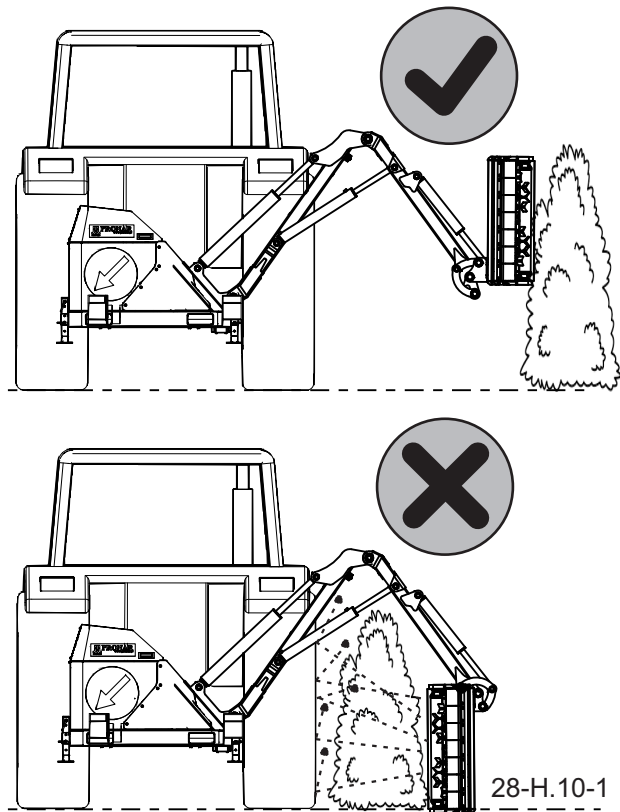

Figure 4.12 Safe position of the working head during hedge trimming.
- Engage appropriate carrier vehicle (agricultural tractor) gear and start working. During operation, the multifunction arm operator must ensure proper visibility of the machine and work area so that the operator can see obstacles and possible dangers in the route of the working head. The rotating elements of the working head shall never be directed towards the carrier vehicle (agricultural tractor (FIGURE 4.12).